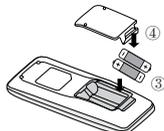

Fig.2
3. Place two 7# (AAA 1.5V) dry batteries, and make sure the position of " + " polar and " - " polar is correct (as shown in Fig 2 ③ ).
4. Reinstall the cover (as shown in Fig 2 ④ ).